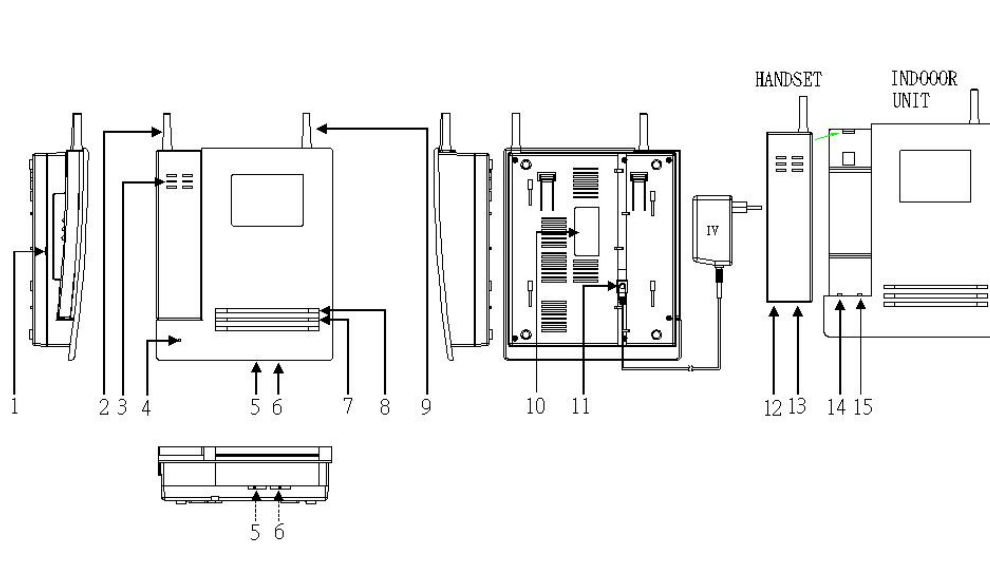

Fig. 1
- 1) Select either channel 1 OR channel 2. (See Fig.1, point 1)
LED indicator from handset: (see fig. 1)